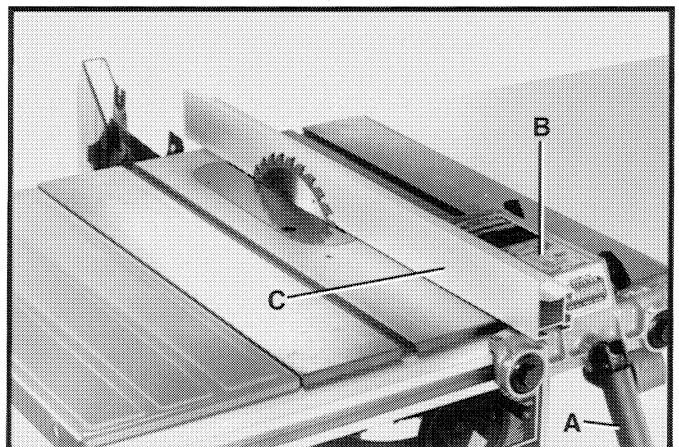

Fig. 55
1. Raise saw blade to its highest position. With the fence (C) Fig. 55, in a **vertical** (high) position as shown, move the saw guide (B) left until the face of fence (C) is flush against the saw blade. Push handle (A) down to lock fence assembly in position.